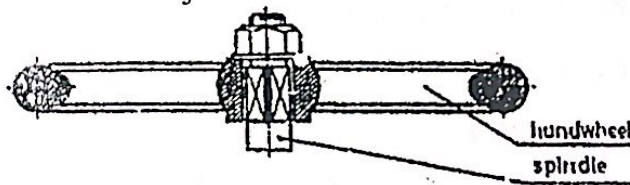

Fig. 5
- 3 – Figure 5 shows a hand wheel fixed to a spindle. Make constructional drawings to show another 3 different versions for this joint.